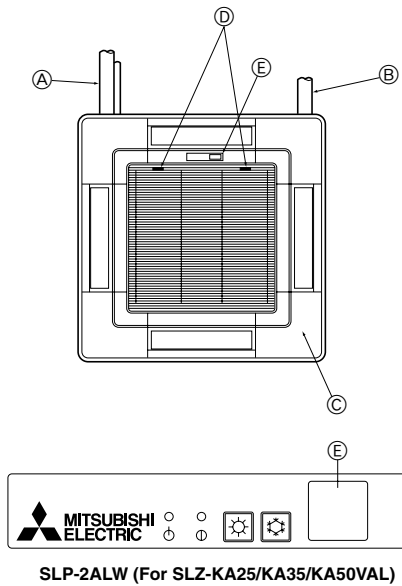

Fig. 8-11
8.5. Installing the intake grille (Fig. 8-11)